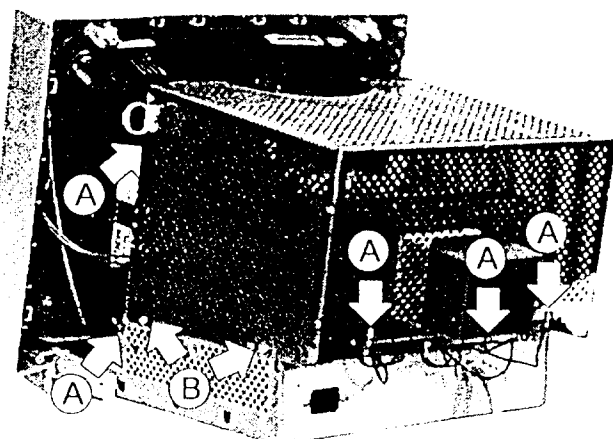

Figure 2-2 Remove the Top Shield & Rear Shield
1. Disconnect the five ground wires from the top shield. Refer to the figure 2-2 (A).
2. Remove the two screws at the top shield. Refer to the figure 2-2 (B).